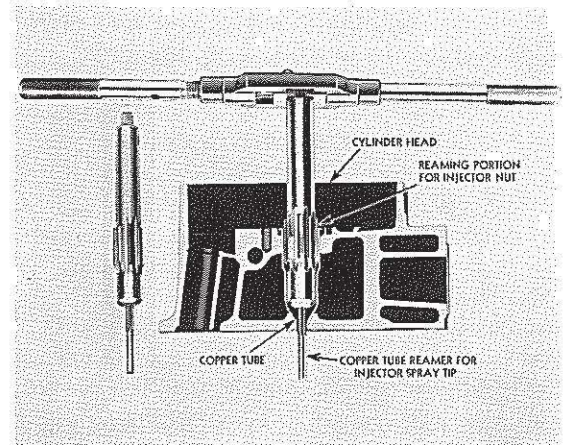

FIG. 28
4. After copper tube has been installed in the cylinder head, it must be reamed first to receive the injector spray tip; and second, for good seating of bevel on lower end of injector nut. The reaming for the injector and spray tip is done by a special tool as shown in Figs. 28 and 29.